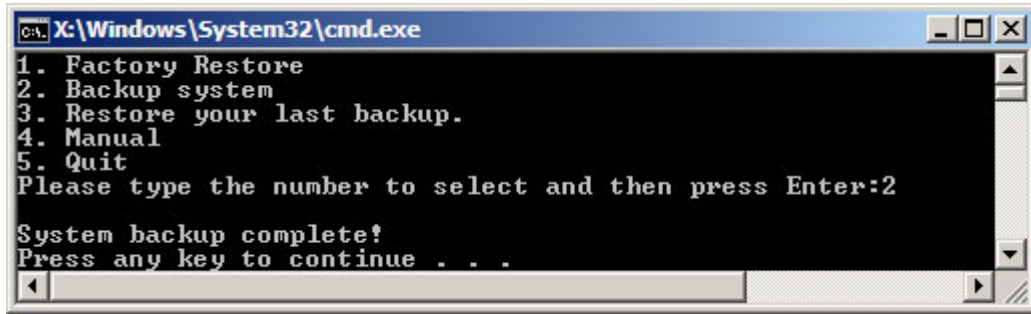

Figure A-37: System Backup Complete Window
Step 3: The screen is shown as in **Figure A-37** when system backup is completed. Press any key to reboot the system.